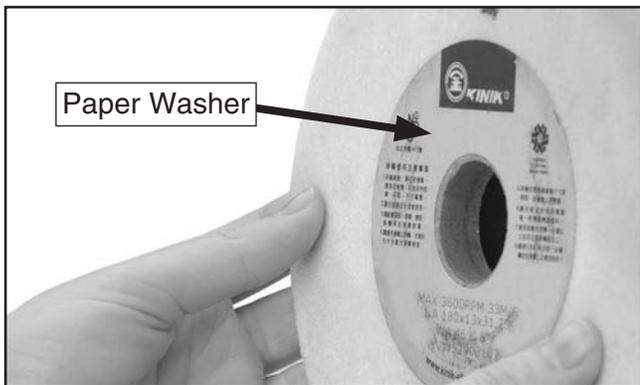

Figure 12. Important wheel paper washer.
3. Inspect the paper washers on both sides of the grinding wheel (see **Figure 12**).